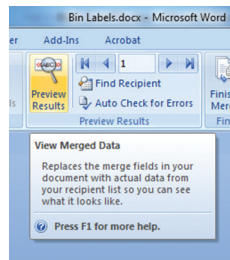

FIGURE 14 Click Preview Results to display View Merged Data window.
- L. Select **Preview Results** from the Word toolbar. A **View Merged Data** window should appear (Fig. 14).